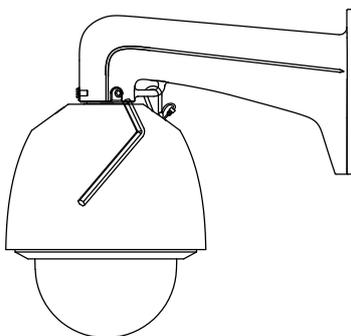

Figure 3-10 Secure the Speed Dome
- 6) Secure the two lock screws with the Allen wrench as shown in Figure 3-10.